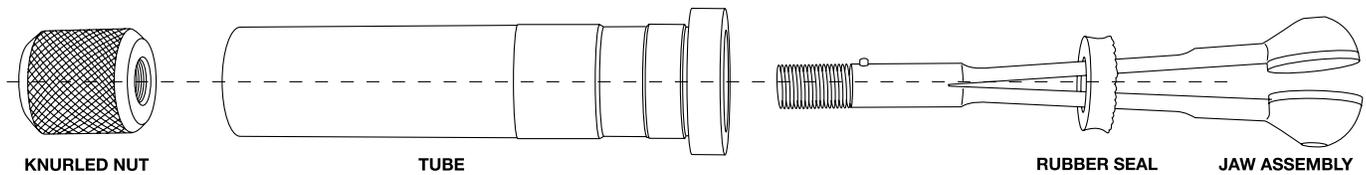

Fig. 6
**FIG. 6:** Remove the tube assembly from the mounting collar and unscrew the large knurled nut to disassemble the jaw assembly from the tube. Note the condition of the **Rubber Seal (#004-126)** located on the jaw assembly. This seal keeps chips and debris from entering the threaded area at the bottom of the jaw preventing premature thread wear. If seal appears damaged or torn, it should be replaced.